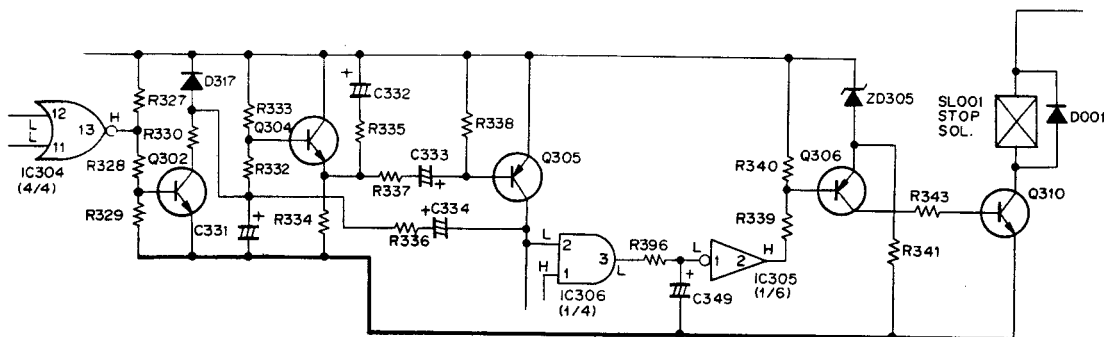

Fig. 7-8 Multivibrator circuit
1. The multivibrator circuit is shown in Figure 7-8. During tape transport, or when pause is on (during PLAY or REC/PLAY), or in the stop condition (when all control levers are released), the IC304 No.13 pin is at H level and the Q302 base potential is high so Q302 is on.
8. When Q305 turns on, the C334 charge is discharged through D317, and Q305 turns off. C334 begins charging again as soon as the Q305 collector potential drops to L level. This begins again the cycle begun in item 6, above, so a pulse output is produced at regular intervals.